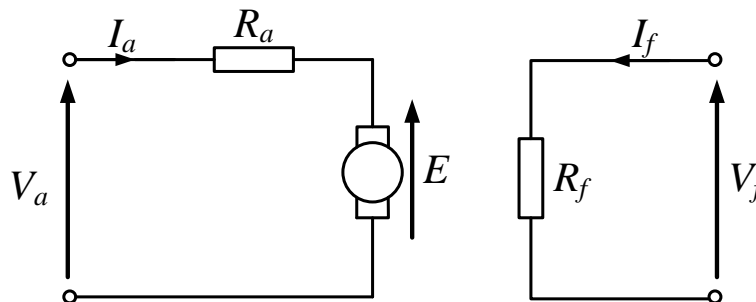

Figure B3
- a) Figure B3 shows the equivalent circuit of a separately excited dc motor. Explain why the field current I_f should never be switched off while the motor is running. (3)
- (i) What is the shaft torque (assume zero mechanical losses)? (6)
- (ii) What are the total electrical losses? (3)
- (iii) The operator increases the armature voltage to its maximum 110 V, and the speed increases to 1200 rpm (with V_f kept constant). What is the new value of I_a ? (2)
- c) If the operator wishes to increase the speed to 2000 rpm, explain (qualitatively) how this could be achieved? (3)
- d) Discuss why induction motors are generally preferred to dc motors for large (greater than 1 kW) motor applications. (3)